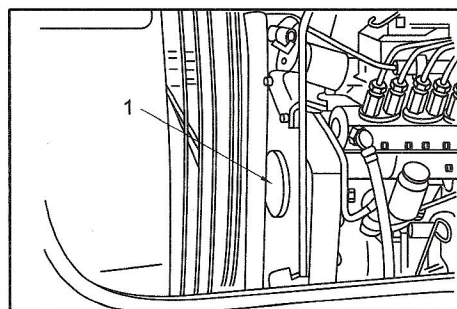

Fig. 05-01
(1) Remove the cover (1).
△ Remove or install the cover (1) with a spanner (See Fig. 05-01).